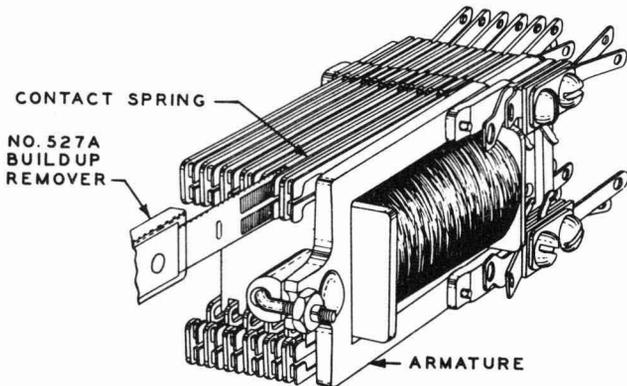

Fig. 33 – Method of Removing Buildups From U- and Similar-type Relay Contacts
5.06 Except for contacts of tungsten and No. 4 contact metal which are covered in 5.12 and 5.13 and contacts on wire-spring-type relays which are covered in 5.09, the procedures for removing buildups are as follows. Place the proper blade of the No. 527A build-up remover over the contact from which the buildup is to be removed. Exercise care when inserting the blade between the contacts to avoid applying pressure which may force the contact off the spring. In the case of bifurcated springs, make sure that both contacts are seated in the two slots in the mask of the No. 527A build-up remover. Hold the build-up remover so that the blade is approximately parallel to the center line of the spring as shown in Fig. 33 except in the case of the bifurcated springs on 245-, 254-, 263-, and 264-type relays. In these cases, hold the blade at an angle of approximately 30 degrees with the horizontal center line of the spring, so that the tip of the